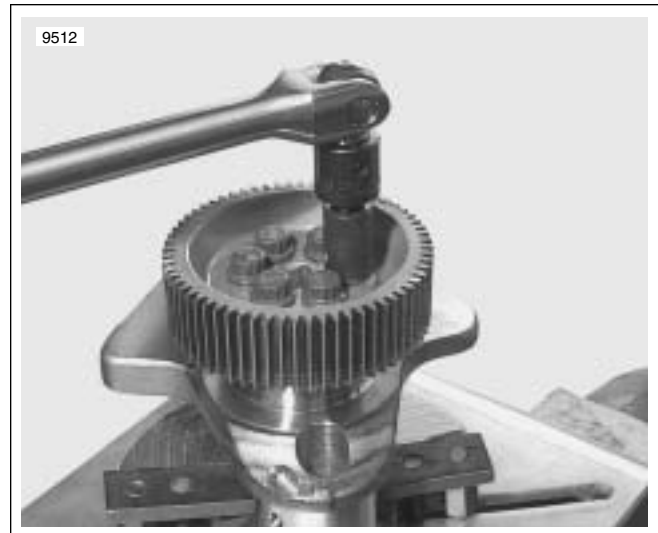

Figure 3-212. Remove Primary Gear
21. See Figure 3-212. Remove and discard primary drive gear fasteners.